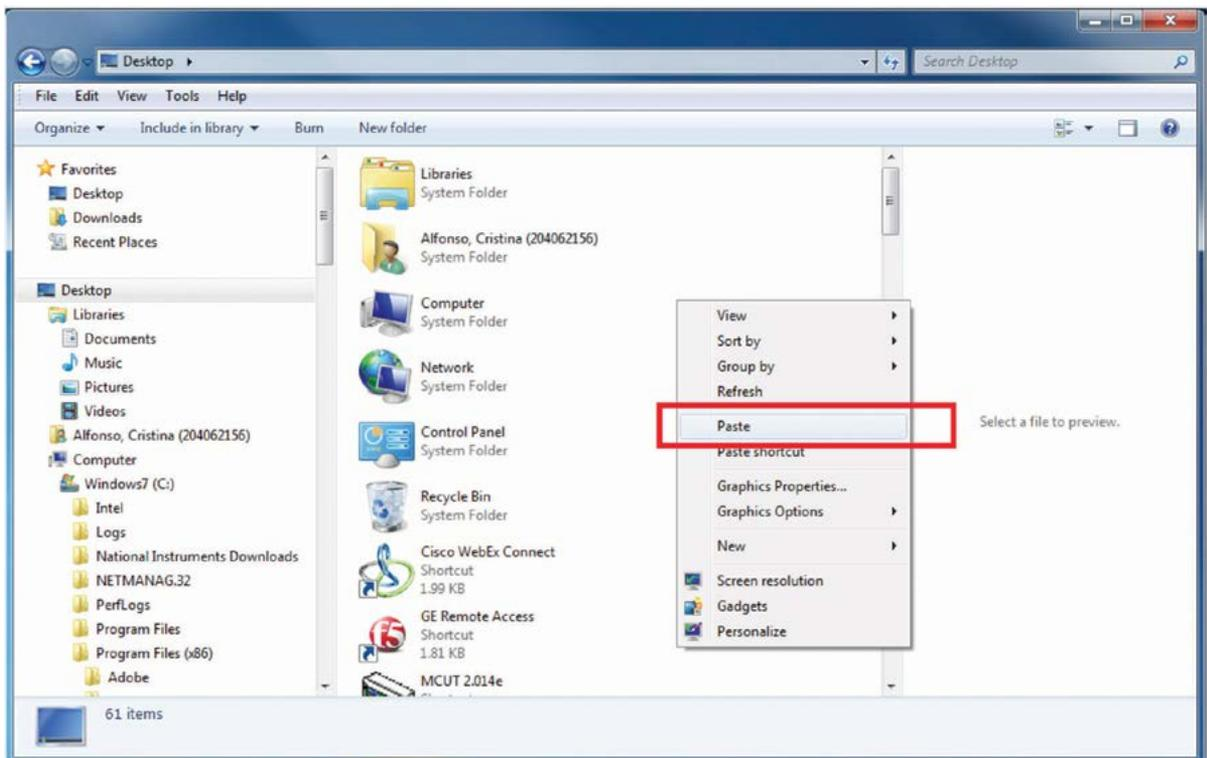

Figure 19: Select “Paste”
19. After selecting “Desktop”, right click on the blank space. Select “Paste” as shown in **Figure 19**.